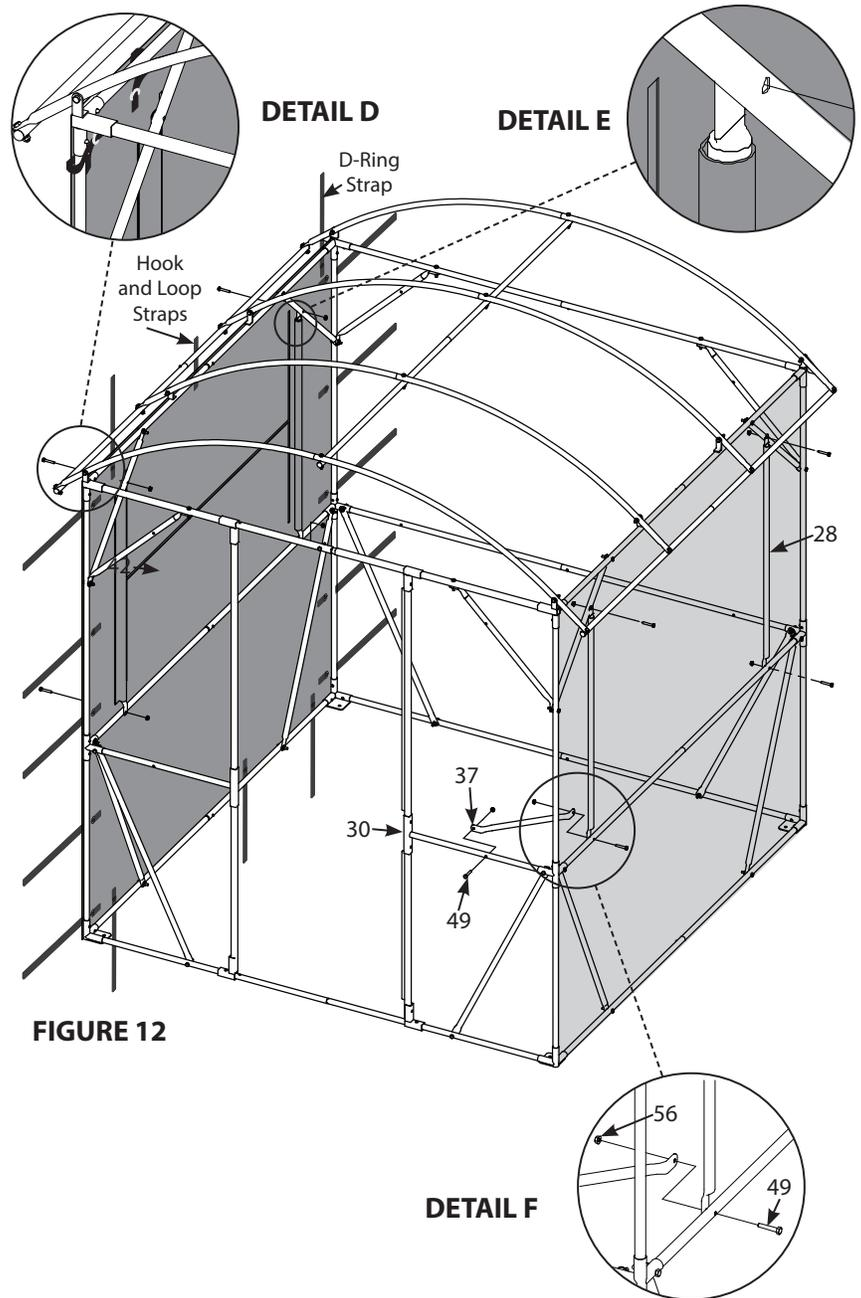
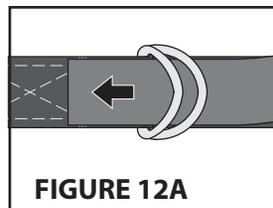

FIGURE 12
FIGURE 12A
12. Attach the two side wall panels (42) to the blind frame by first hanging the panels from the top tier of the frame using the two D-ring straps and hook and loop straps along the top edge of the panel. Wrap the straps around the frame and secure. **DO NOT FULLY TIGHTEN D-RING STRAPS AT THIS TIME. SEE FIGURE 12 and DETAIL D.** Refer to FIGURES 12A-C for proper strap routing.
Next, bolt the (28) window poles to the blind frame using two 1/4-20 X 1-1/2 IN bolts (49) and 1/4-20 nuts (56) for each pole. Pay attention to the orientation of the poles. **SEE FIGURE 12 and DETAIL E.** Pay attention to the orientation of the bolts! The head of the bolt must be on the outside of the frame. This helps prevent wear on the skin when fully assembled.
Finish attaching the side wall panels (42) by wrapping all the D-ring straps around the frame and secure. **DO NOT FULLY TIGHTEN D-RING STRAPS AT THIS TIME. START AT THE TOP AND WORK YOUR WAY TO THE BOTTOM. SEE FIGURE 12.**
Attach the angled door brace (37) on one end to the previously installed window pole bolt and on the other end to the (30) part using one 1/4-20 X 1-1/2 IN bolt (49) and 1/4-20 nut (56) as shown. **SEE FIGURE 12 and DETAIL F.**